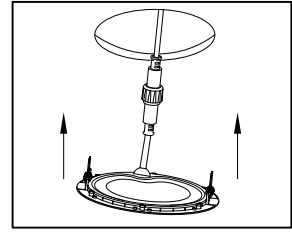

fig. 4
5. Rotate and hold both spring clips upward to allow passage through the hole in the ceiling. Continue to press the light module through the hole until it is securely fixed and flush with the ceiling (fig. 4).